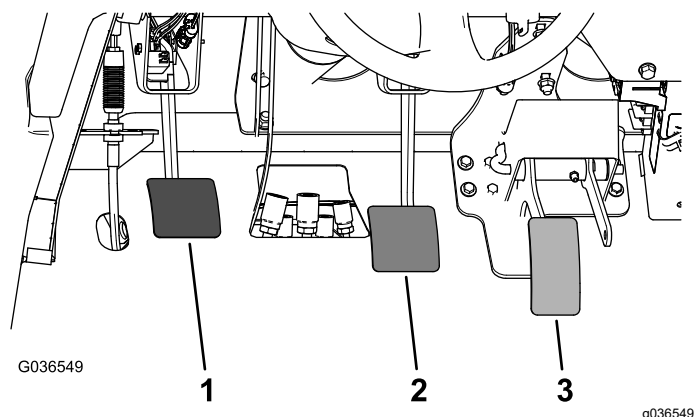

Figure 59
2. Lift up on the brake pedal (Figure 59) until it contacts the frame.
3. Loosen the jam nuts securing the yoke to the master cylinder shaft (Figure 59).